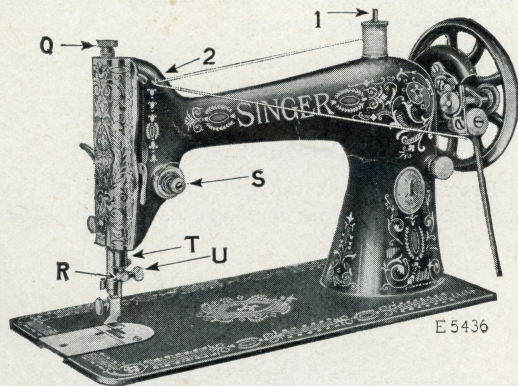
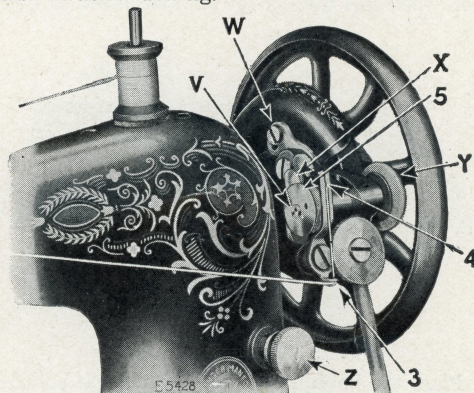

FIG. 5. MACHINE THREADED FOR WINDING THE BOBBIN
FIG. 6. WINDING THE BOBBIN
Place the bobbin on the bobbin winder spindle (V, Fig. 6, page 7) and push it up closely against the shoulder, having the small pin in the spindle enter the hole in the side of the bobbin. Put the spool of thread on the spool pin (1, Fig. 5). Pass the end of the thread into the thread guide (2, Fig. 5) then up into the lower eyelet (3, Fig. 6) of the bobbin winder thread guide, into the notch (4, Fig. 6) and pass the thread through the hole in the left side of the bobbin (5, Fig. 6), from the inside. Press the bobbin winder pulley (Y, Fig. 6) down on the
balance wheel hub, and the latch (X, Fig. 6) will drop down and hold it. Then operate the treadle the same as for sewing.
The end of the thread must be held by the hand until a few coils are wound and should then be broken off. Figs. 5 and 6 show the bobbin winder properly threaded and in position for winding. When sufficient thread has been wound upon the bobbin, the bobbin winder is automatically released from the balance wheel.
If the pressure of the rubber ring (Y, Fig. 6) against the hub of the balance wheel is insufficient for winding the bobbin, loosen the adjusting screw (W, Fig. 6) and press the bobbin winder lightly until the rubber ring is in contact with the hub of the balance wheel; then tighten the screw (W).
Turn the balance wheel over toward you until the needle bar moves up to its highest point in the sleeve (T, Fig. 5, page 6), loosen the thumb screw (U, Fig. 5) in the needle clamp (R, Fig. 5), and put the needle up into the clamp as far as it will go, with its flat side toward the right; then tighten the thumb screw. To select the correct needle see page 41.